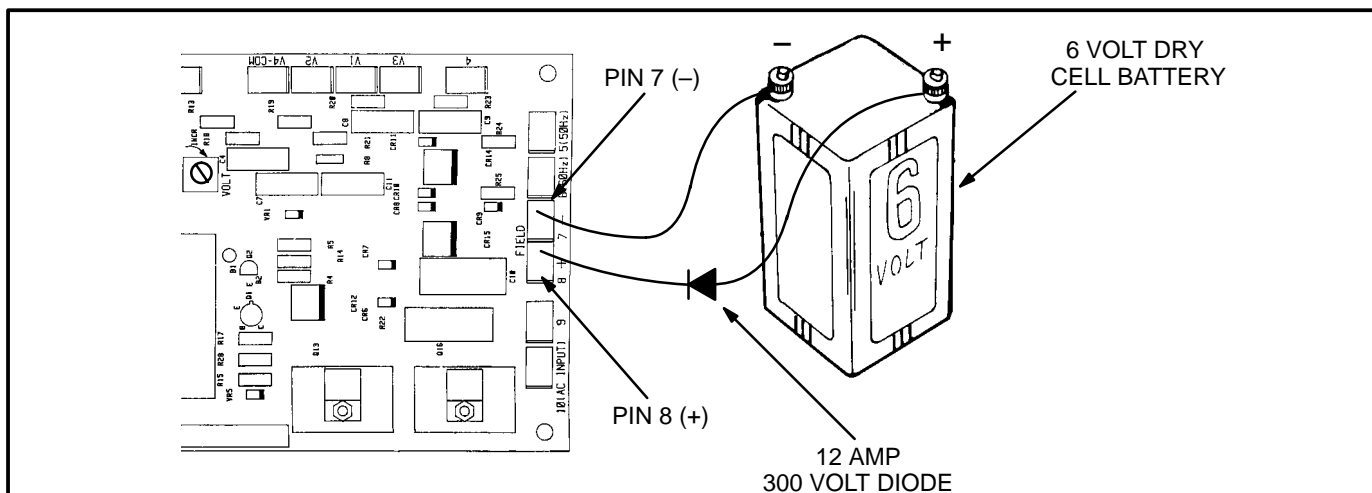

FIGURE 6. FLASHING THE FIELD
2. Use a six volt dry cell battery with two clip leads and a 12 amp, 300 volt diode as shown in Figure 6. If a six volt battery is not available, a 12 volt automotive battery can be used by adding a 20-ohm resistor in series; or a 24 volt automotive battery can be used by increasing the resistance to 40-ohms.